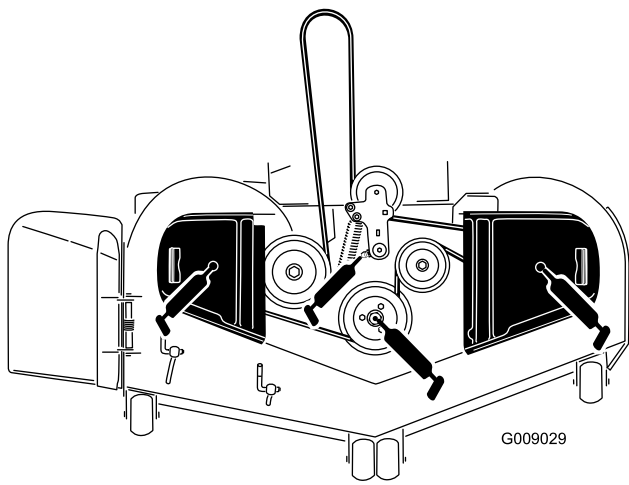

Figure 40
3. Grease the mower deck idler pulley pivot until grease come out the bottom (Figure 40).
4. Grease the 3 spindle bearings until grease comes out the lower seals (Figure 40).
5. Grease the drive belt idler arm (Figure 40).